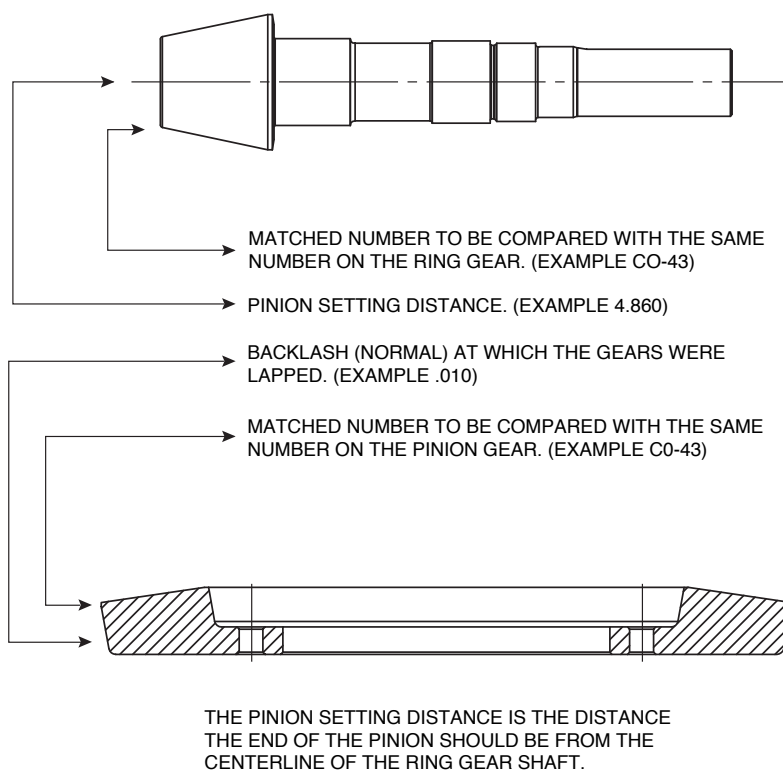

FIGURE 4 Gear Match Numbers and Setting Data
Note—The thickness of the shim pack (307) is important in resetting the gears. The shim pack should either be saved or carefully measured with a micrometer. If the gears are to be replaced, record the pinion setting distance that is etched on the pinion gear. See **Figure 4**.
4. Remove bearing retainer and shim pack (306) from top of case.
Before assembling a new pinion gear in the pinion cage, check match numbers on pinion gear and spiral bevel ring gear to be certain that they are a matched set. Gears are lapped in matched sets at the factory and should not be separated. Numbers are etched on both the pinion and ring gear as illustrated in **Figure 4**.
11. Record the pinion setting distance that is etched on the pinion gear. See **Figure 4**.